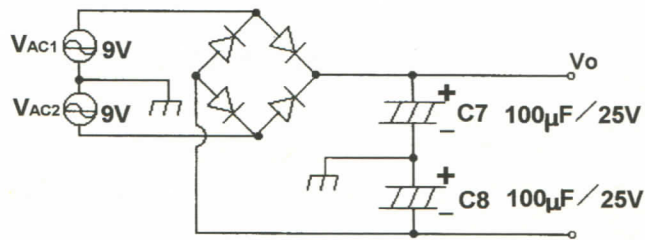

Fig 3-4 (a)
- (1) Firsts fix the module KL-23002 in the KL-200 Linear Circuit Lab, then locates the block marked 23001-block c.
- (2) a. Insert the short-circuit clip by referring to Fig 3-4(a) and the short-circuit clip arrangement diagram 23002-block c.10.